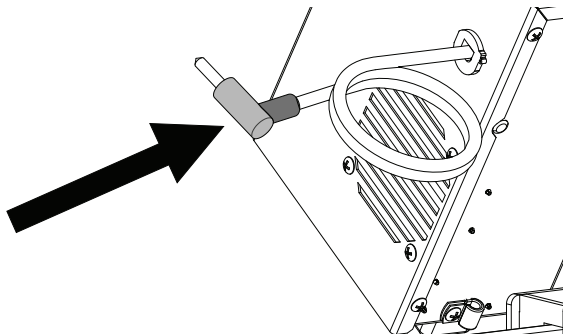

Figure 4
12. Plug in the puller patch cord to the puller's foot switch jack (Fig. 4).